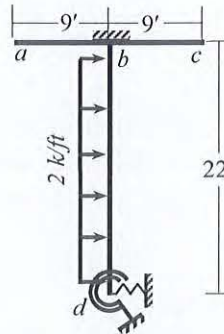

Fig.3
3. Use Stiffness Method (neglect axial deformations) to calculate rotation of joint *d* of the frame *abcd* loaded as shown in Fig.3, if the joint *d* is a circular foundation of radius 3.5 ft on the surface of subsoil (half-space) with shear wave velocity (v_s) equals to 1200 ft/sec [Given: $EI = 45 \times 10^3$ k-ft², $\gamma_{soil} = 120$ pcf, Poisson's ratio of soil, $\nu = 0.25$].